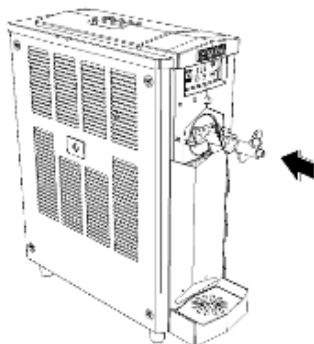

Fig. 58
- Once assembled, insert the beater carefully into the cylinder making sure that the rear shank fits perfectly in its seat within the cylinder (Fig. 58).